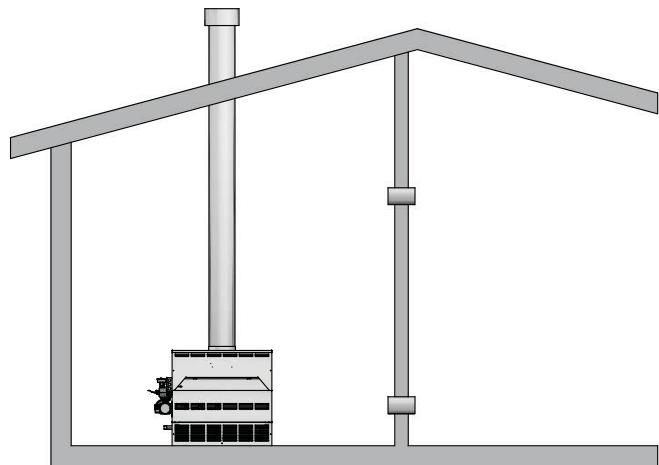

Figure 1-5 Combustion Air from Interior Space
3. If air is taken from another interior space that is adequately ventilated, each of the two openings specified above should have a net free area of one square inch for each 1000 Btu/hr (22cm² per kW) of input, but not less than 100 square inches (645cm²) (see FIG. 1-5).